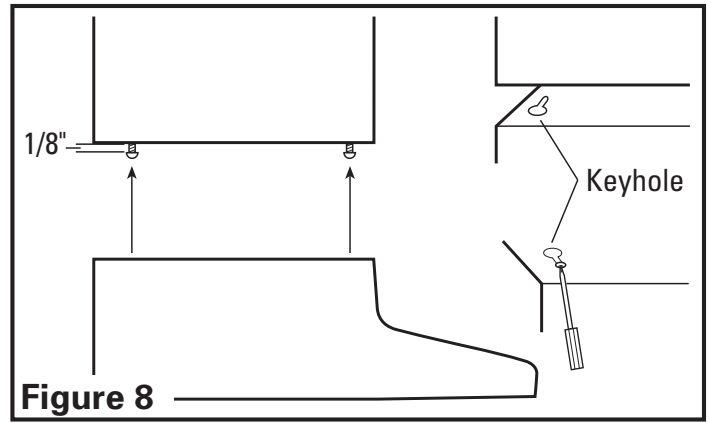

Figure 8
5. Install the 4 mounting screws at the previously marked locations. Leave approximately 1/8" clearance. Slide the hood in place through the keyhole slots and align the front of the hood so that it is flush with the front of the cabinets. Tighten all screws securely (**Figure 8**).